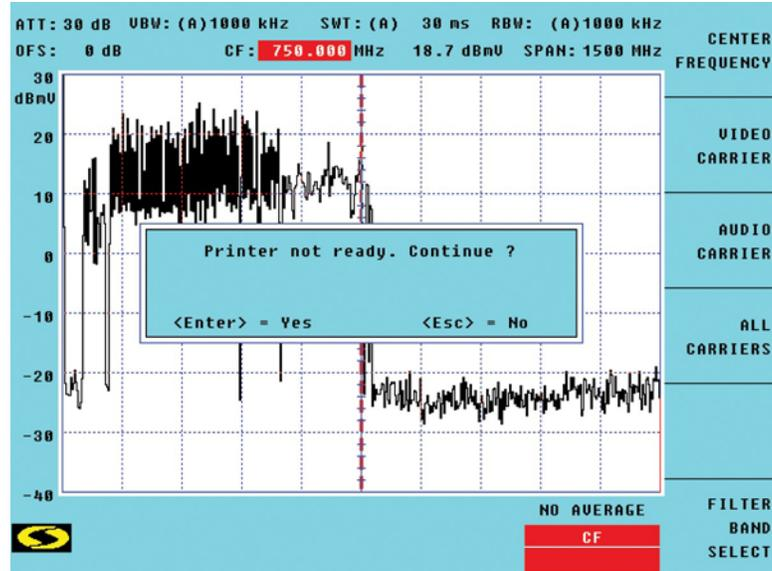

Figure 3-6: Printing Errors
To print the screen, press the **PRINT** key. An error message appears if there are any problems either with the printer configuration or cable connection. If a message does appear (see *Figure 3-6*), make sure that the printer cable is connected and that the appropriate printer driver is selected.
3. Once the records are tagged, select **F5 PRINT TAGGED ITEMS**. An error message appears if there are any problems either with the printer configuration or cable connection. If a message does appear (see Figure 3-6), make sure that the appropriate printer driver is selected.